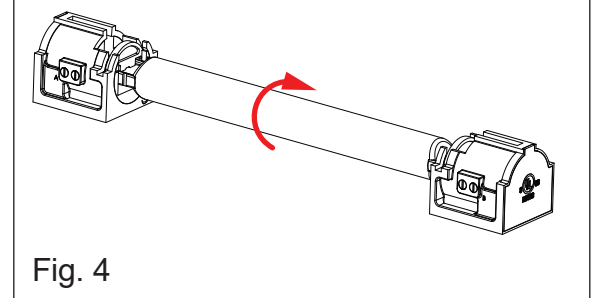

Fig. 4
4. Once the lamp is seated correctly, rotate 180° clockwise until it locks into position. *Doors will close on the lamp base as you begin to rotate* (Fig. 4).